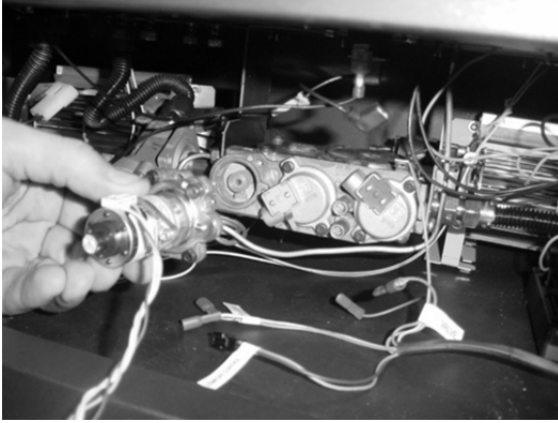

Figure 1
- (b) Remove and discard the Natural Gas (NG) orifice. Place the LP orifice in the pilot assembly then replace the pilot hood, tightening the pilot hood until it is snug (do not over-tighten).
- The stepper motor (adjustable regulator) has an installation sheet included with it – make sure to follow all of the directions. Place the stepper motor on the gas control valve (see Figure 1) – **MAKE SURE IT IS CORRECTLY ORIENTED.** Secure using the screws included with the motor (see Figure 2) – tighten to 25 Lb-inches. Leak test this area after installation to verify proper installation.